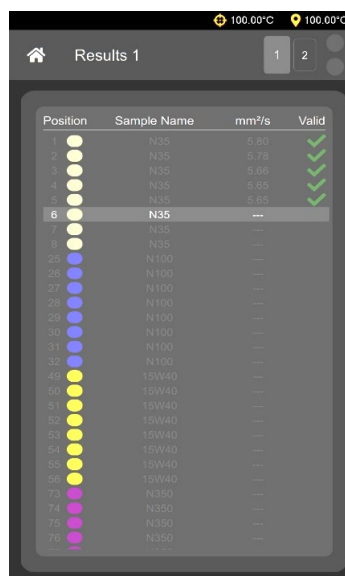

Figure 47: Tray Sample Results
2. All sample results from a particular tray may be viewed from the **Results** screen. See Figure 47.